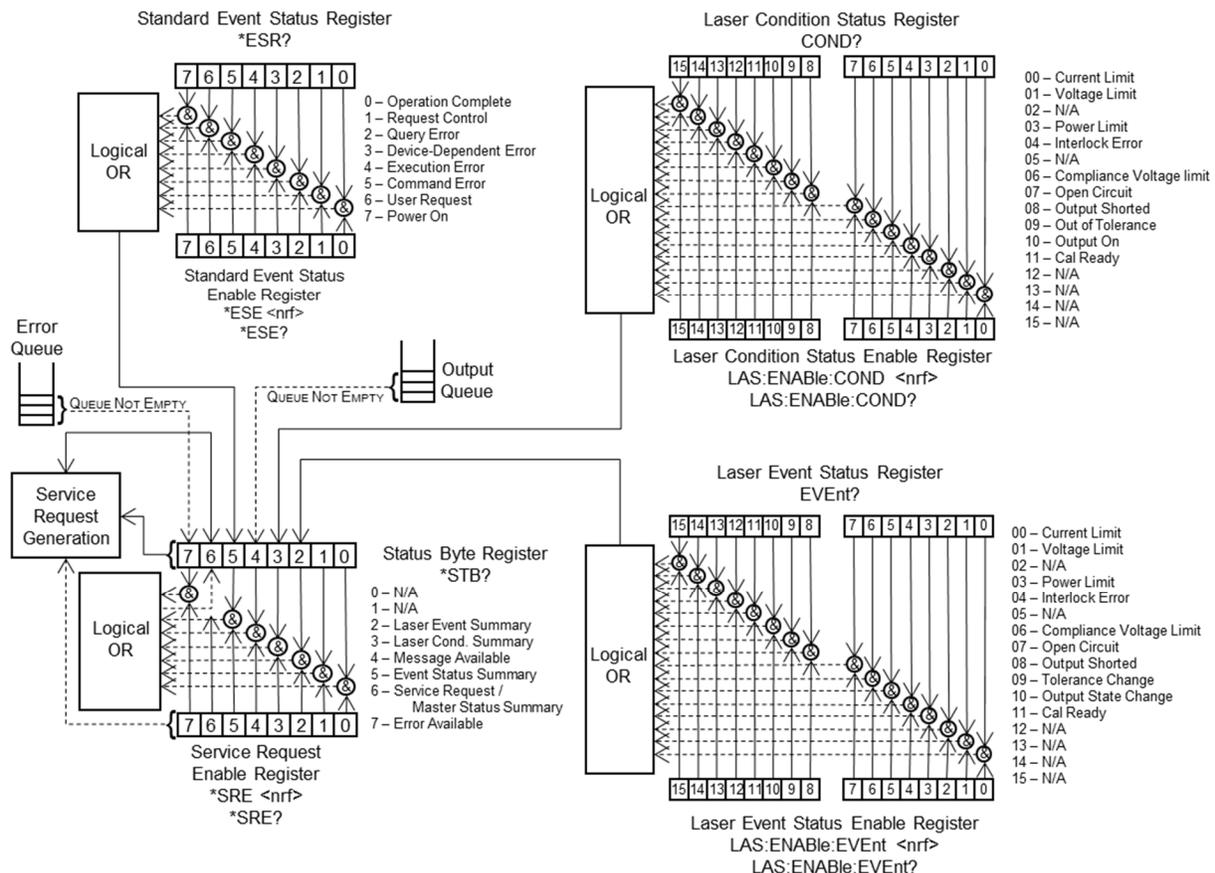

Figure 3.3 LDX-3232 Status Reporting Schematic Diagram
- *ESE (0 to 255, see Figure 3.3)
- *SRE (0 to 255, see Figure 3.3)
Figure 3.3 shows the status reporting scheme of the LDX-3232 High Compliance Current Source. Each of the registers that may be accessed by a command or query has the appropriate command or query written above or below the register representation. For example, the LASER Condition Register may be queried via the LASer:COND? query.